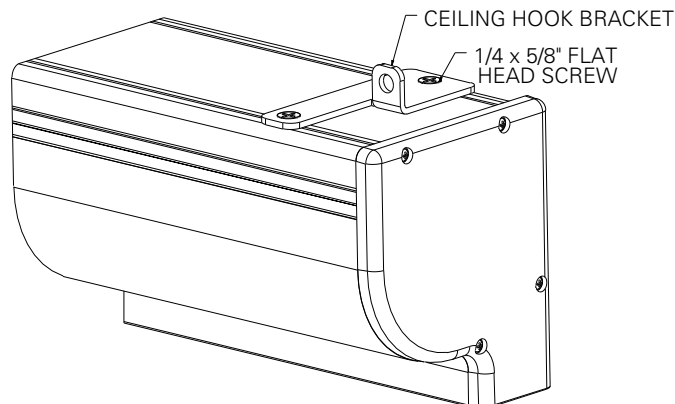

FIGURE 3
2. The top of the screen case has two channels with threaded nuts that slide the length of the case. Attach two or three ceiling hook brackets as provided to the screen case as shown in figure 3.